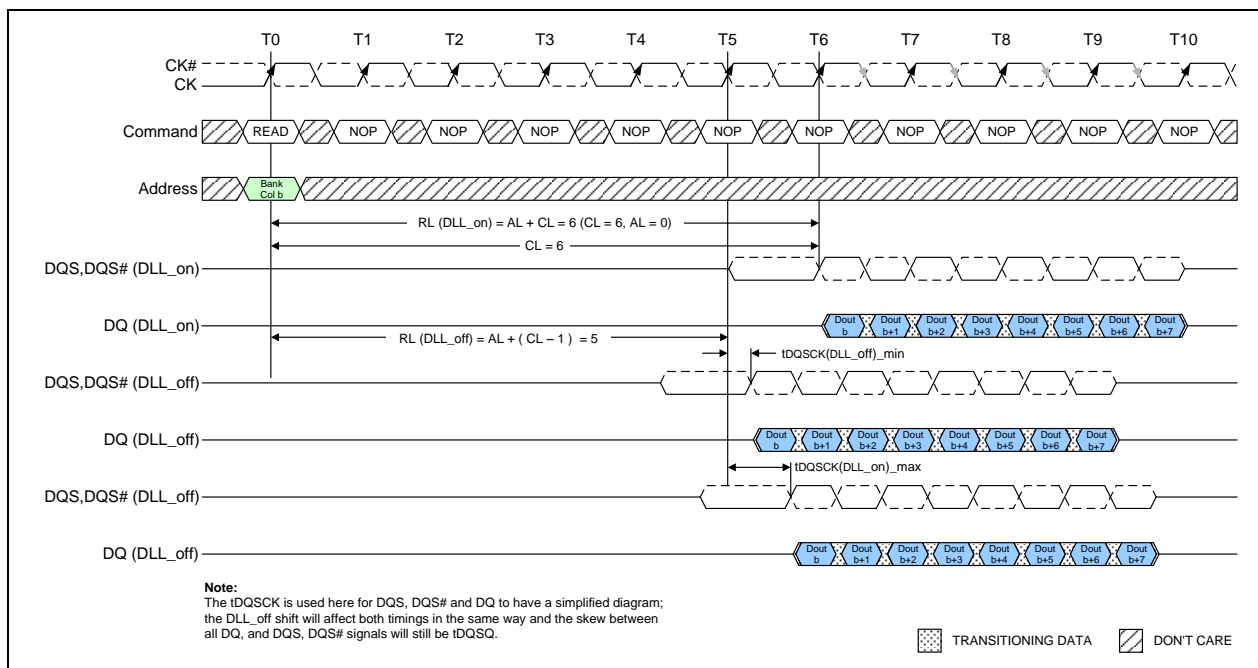

Figure 9 – DLL-off mode READ Timing Operation
3. If the  $Rtt\_Nom$  feature was enabled in the mode register prior to entering Precharge power down mode, the ODT signal must continuously be registered LOW ensuring RTT is in an off state, as shown in Figure 9. If the  $Rtt\_Nom$  feature was disabled in the mode register prior to entering Precharge power down mode, RTT will remain in the off state. The ODT signal can be registered either LOW or HIGH in this case.